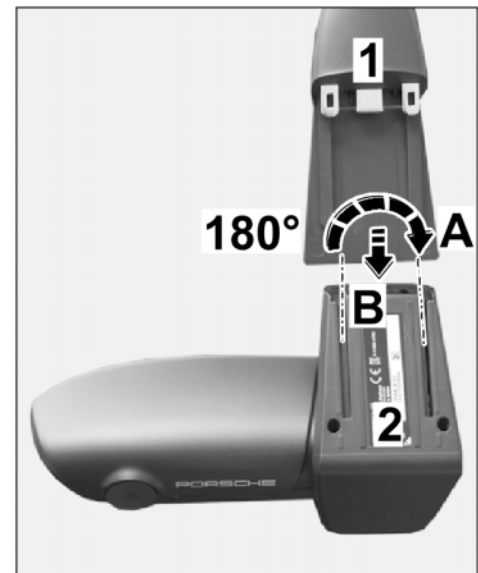

Figure 7
2.1.1 Install retainer plate with wire harness on the base of the front camera until the locking mechanism engages (\Rightarrow *Figure 7*).